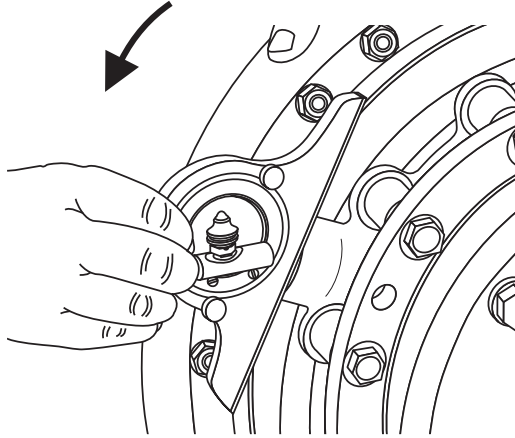
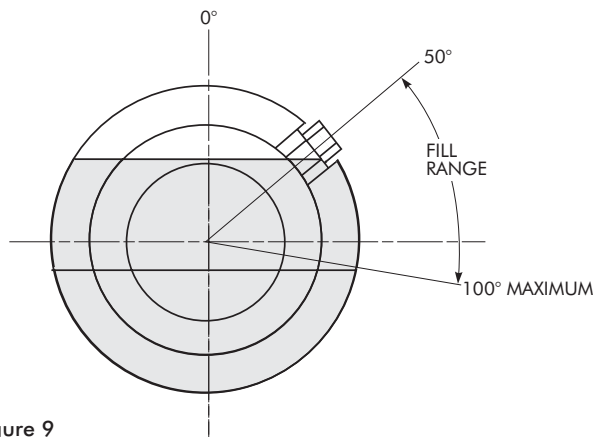

Figure 8
Figure 9
- C. Slowly rotate fluid coupling until bubble in spirit level is centered, Figure 8. Fluid must appear at the lip of the hole. Add or drain fluid until level is correct. Figure 9 shows fill angle range.